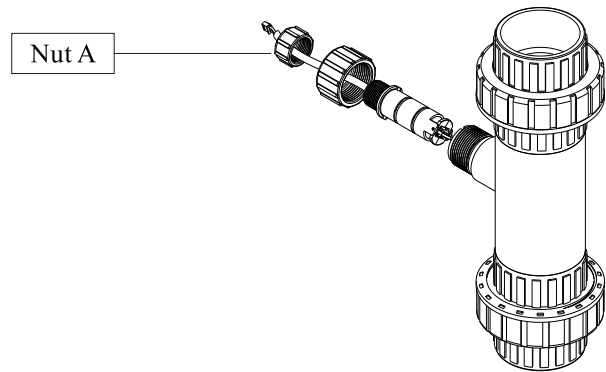

Figure 1-3
- When the flow meter stops measuring but the tested liquid still flowing, the working mode of probe can be checked online. Screw the probe nut A out, and check the working condition of the diode on the back of probe. If the diode always lights on or off, it indicates the impeller in pipeline stop rotating. It shall stop pipeline working, release pressure in pipeline, and disassemble the probe to check if there is any foreign matter impact impeller rotating. After cleaning, if it can rotate normally by manually, and the diode works normally, it can continue to use after confirming the installation correct. (As Figure 1-3)